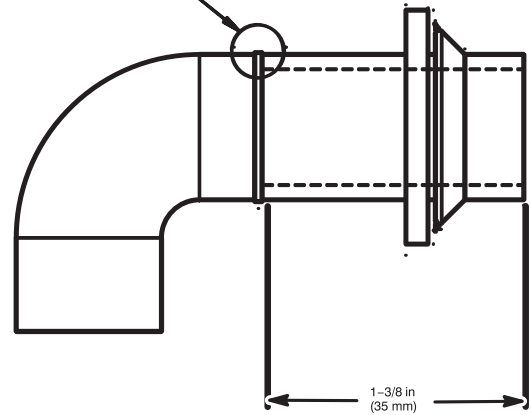

Fig. 15 - Modify Rubber Drain Elbow
3. The Z-pipe is connected to the condensate trap and the outside of the furnace by modifying the formed rubber drain elbow as shown in Fig. 15.
4. Remove the formed grommet from the rubber drain elbow by cutting the elbow along the vertical line located about 1-3/8 in. (35 mm) away from the formed grommet. See Fig. 15. **DO NOT DISCARD THE FORMED GROMMET OR THE RUBBER ELBOW.** Both of these pieces will be used.
TIP FROM CONTRACTORS: When installing the furnace horizontally, use the entire drain elbow (that is, do NOT cut as shown in Fig. 15 to connect the trap to the drain line. This helps to prevent bumps and shocks to the drain line from damaging the furnace drain trap. Avoid misalignment of the drain pipe which may cause kinks in the elbow.